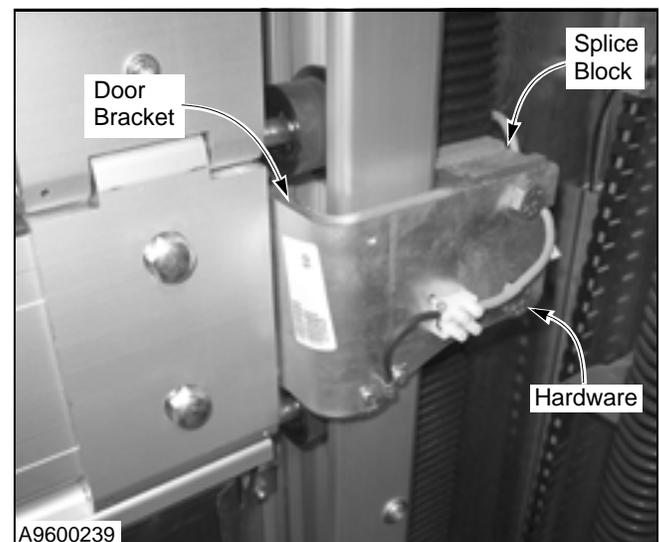

Figure 60
3. Install hardware, connecting the door bracket to the splice block in each side column. (See Figure 60.)